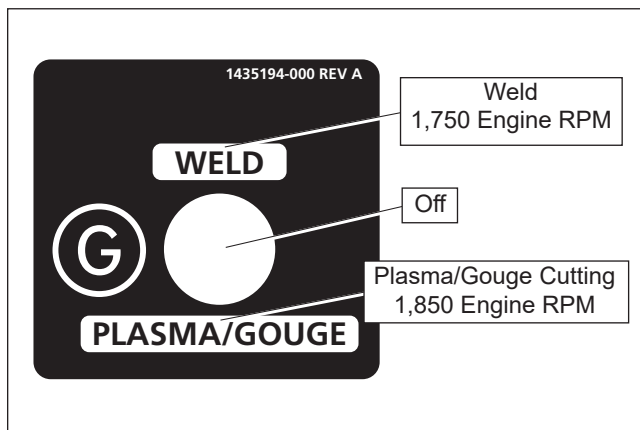

Figure 11.2 – 20 kW Generator Switch
When the generator is switched on, the engine speed will increase as indicated in Figure 11.2.
3. With the engine on, select one of the generator operating functions (refer to Figure 11.2).
1. With the engine on, select one of the generator operating functions (refer to Figure 11.2).